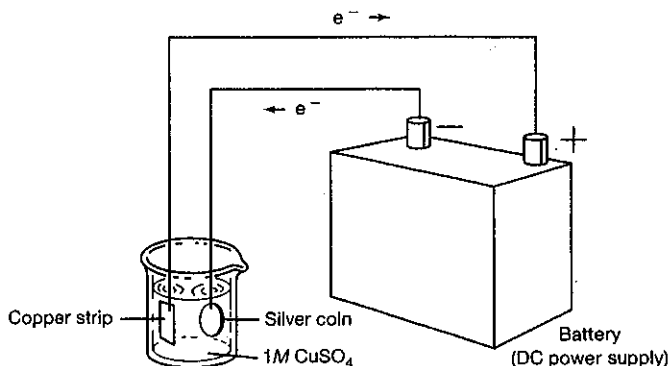

Figure 46.2
3. Add 100 mL of 1M CuSO_4 to a 250-mL beaker and set up a system similar to that shown in Figure 46.2.